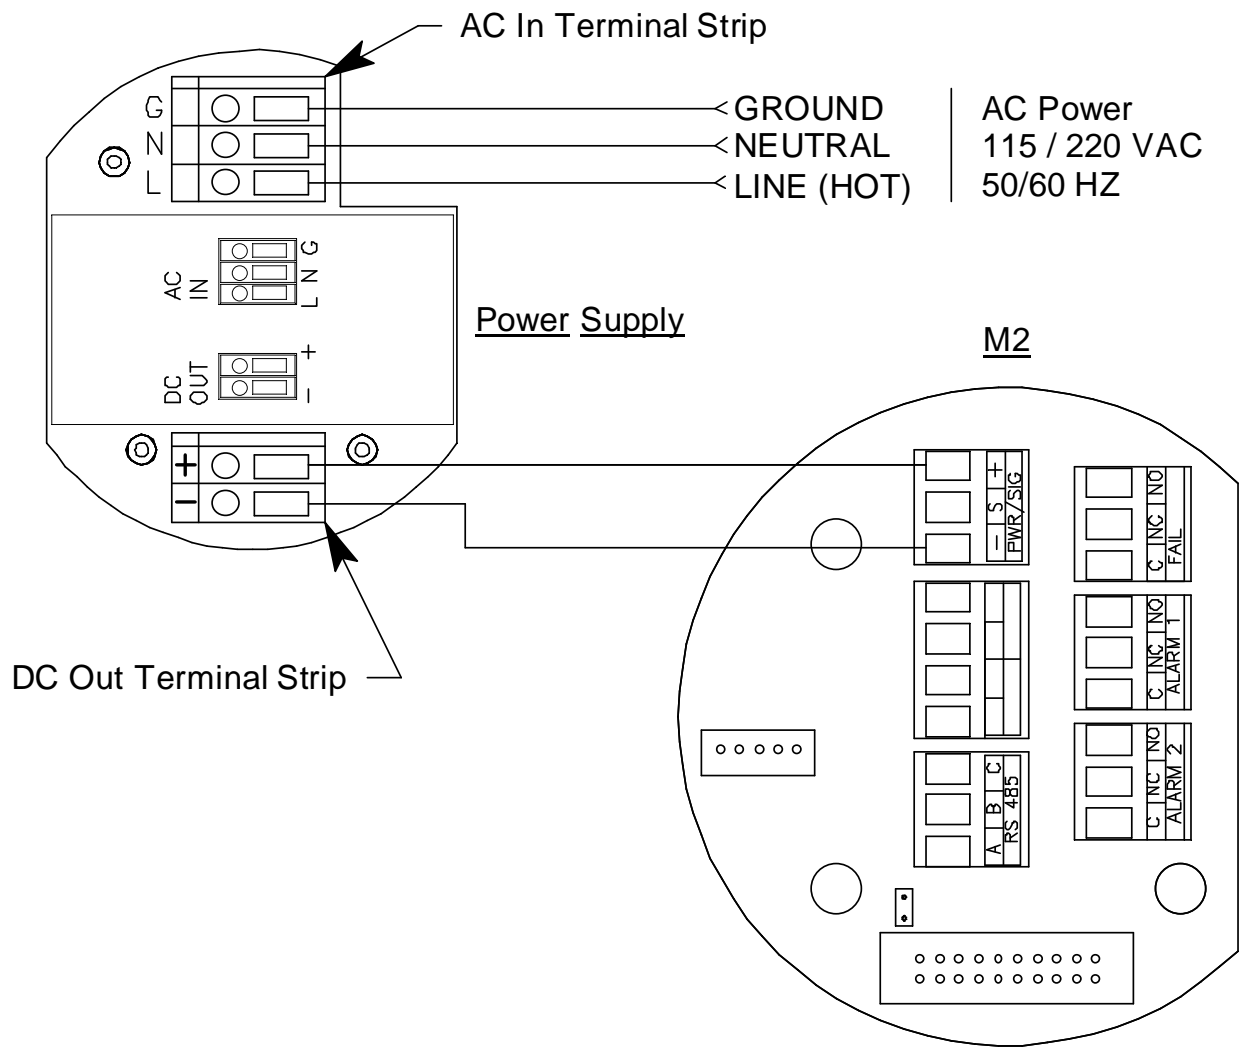

Figure 5: Wiring to an M2
9. Connect the wires to the power terminal strip as shown in Figure 5 below.